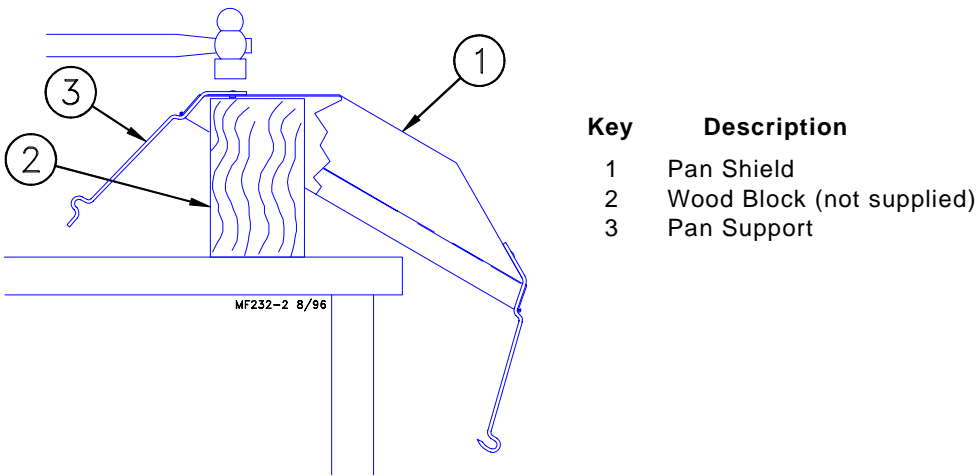

Figure 1. Pan shield Assembly (side view)
1. Attach one Swing Down Pan Support and three regular Pan Supports to Pan Shield using rivets supplied. Always attach the Swing Down Pan Support at the same location on all pan shields. It will be necessary to support the Pan Shield while installing the rivets. Use a hammer to drive rivets as shown in Figure 1.
- 3. Rivet the Pan Supports on the Control Unit Shield. See Figure 1 (on page 7) for instructions on riveting.